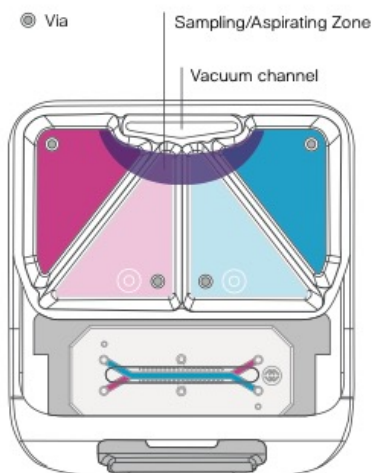

Figure 1
1. For the most reliable analysis, collect samples from all four reservoirs for every Pod™ Portable Module at each timepoint (i.e., bottom channel inlet reservoir, bottom channel outlet, top channel inlet reservoir, and top channel outlet reservoir as in L-R Pod reservoirs, Figure 1). Inlet concentrations can be used to confirm proper dosing and assess if there is compound loss to the system.